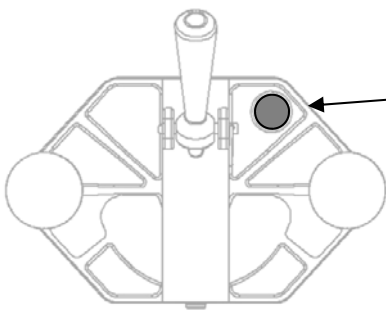

Fig. 24
3. Fill the mix pan with chilled, properly mixed product. You will see bubbling from the inlet hole. As the product begins to fill the freezing cylinder, depress and hold the pressure relief valve (Fig. 24) until the freezing cylinder is filled. Once product seeps out from the pressure relief valve, release the button.